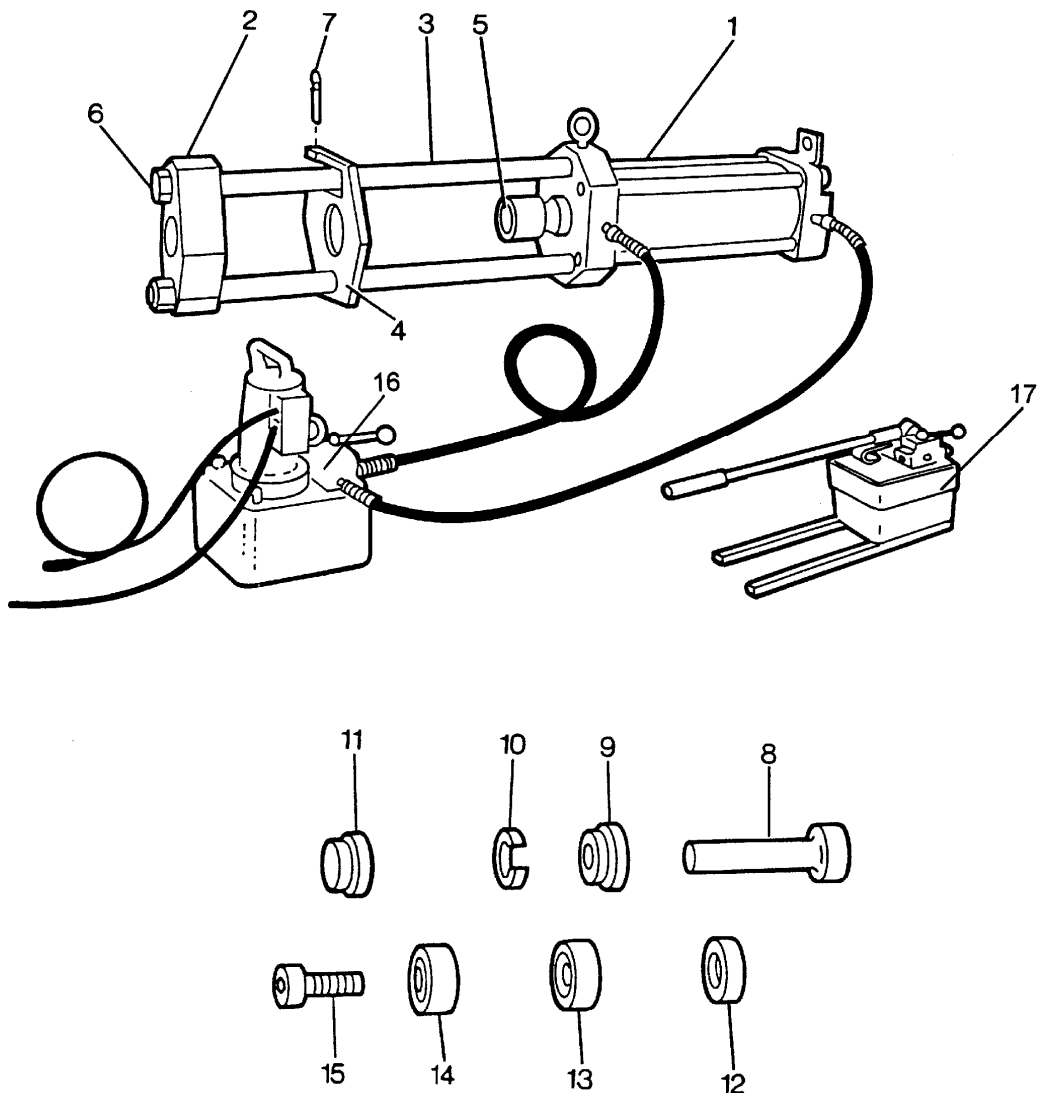

Fig. 15.10. 100 Ton Ram - DR11-802
Assemble Ram (Fig. 15.10) as follows:
1. To replace a damaged section of track, remove the track shoes, and cut out the damaged section with a cutting torch. Remove the end links as outlined in the following Step 3. Rebuild the section onto the track by pressing individual links, link pins and bushings together with a hydraulic track press using the installing tool with necessary adapters listed in Fig. 15.10.